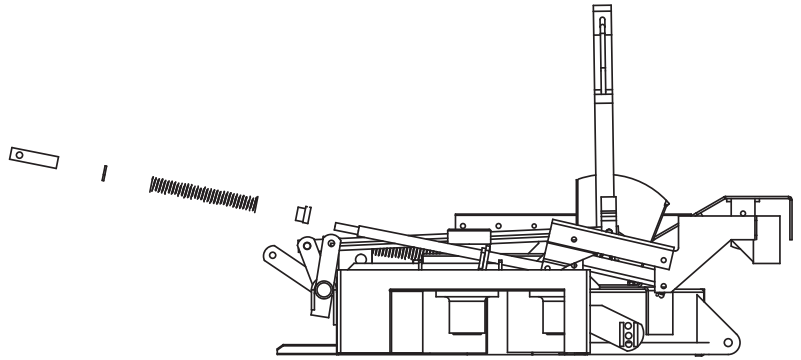

FIG 1
- A. Begin by replacing the existing caster rod springs (Fig. 1) with the foot lift springs (593166) included in the kit.